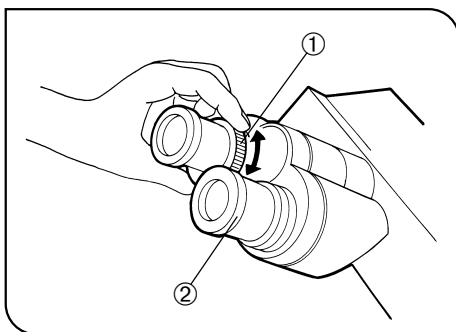

Fig. 12
### 2 Adjusting the Diopter (Figs. 12 & 13)
2. Looking through the eyepiece with the diopter adjustment ring ①, turn it to focus on the specimen. (Fig. 12)
1. Looking through the right eyepiece with your right eye, turn the diopter adjustment ring ② at the top of the eyepiece until clearly defined double crosslines can be seen in the field of view. (Figs. 12 & 13)
3. Looking through the left eyepiece with your left eye, turn the diopter adjustment ring ① to focus on the specimen.